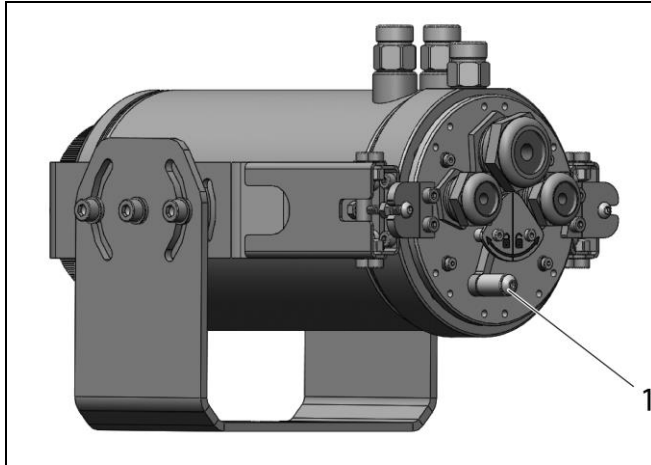

Figure 20: Back side of the Cooling Jacket with locking lever
6. Move the locking lever to the left (symbol: ) , so that the chassis is fitted close to the inner surface of the housing (**Figure 20**).
4. Move the locking lever to the left (symbol: ) , so that the chassis is fitted close to the inner surface of the housing (**Figure 20**)